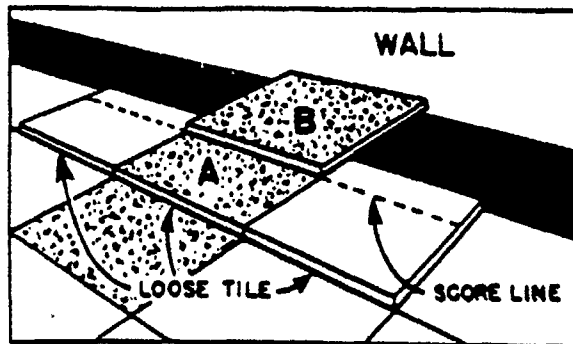

Fig. 4
Here's how to get an accurate fitting border. Place a loose tile (A) accurately over one of the tiles in the last row of tile installed (see Fig. 4). Be sure the decorations in this tile run the same as the one next to which it will be installed. Then place another loose tile (B) so it overlaps tile (A) and ex-